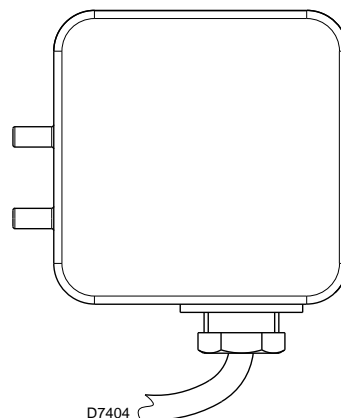

Fig. 22
- Adjust the air pressure switch (Fig. 22) to the start of the scale.
Adjust the air pressure switch (Fig. 22) after performing all other burner adjustments with the air pressure switch set to the start of the scale.